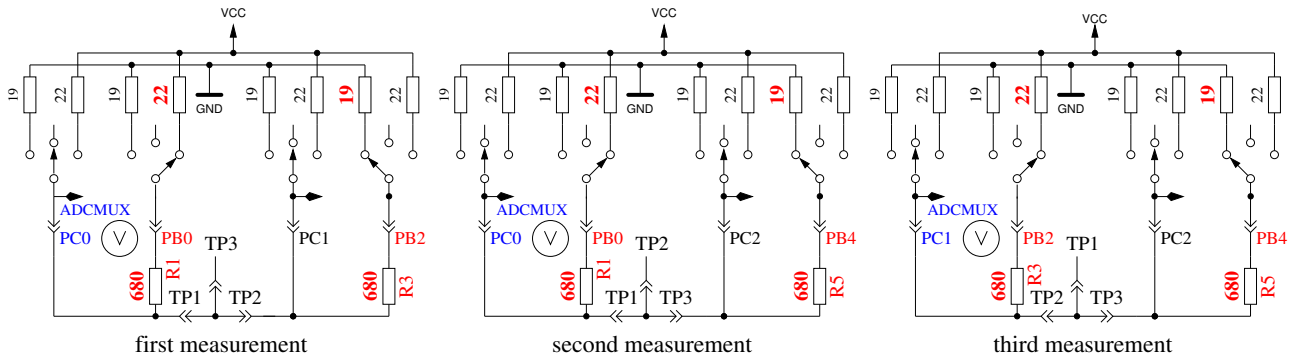

Figure 5.36: Comparison of 680Ω resistors
2. **Comparing of the 680Ω resistors.** In row 1 the cryptic text “+RL- 12 13 23” is shown. Meaning of this is as follows: The RL is the short form of Resistor Low meaning the 680Ω resistors. The 12 stand for: resistor at pin 1 is connected to VCC (+) and resistor at pin 2 is connected to GND (-). The result of this measurement is displayed in row 2 at the first place. In row 1 follows now a “13” which means, that the first connection of measurement 1 is still connected with 680Ω to VCC but that the resistor of pin 3 is connected to GND. The result is displayed in the middle place of row 2. The last measurement of this test “23.” means that now the resistor at pin 2 is connected to VCC (+) and the resistor of pin 3 is connected to GND. The result of measurement is displayed at the last place of LCR row 2. Please remember, that the resolution of the ADC is about 4.88mV! The measurement situation is also shown in figure 5.36. All these combinations with respect to the internal resistance of the pins should result to: